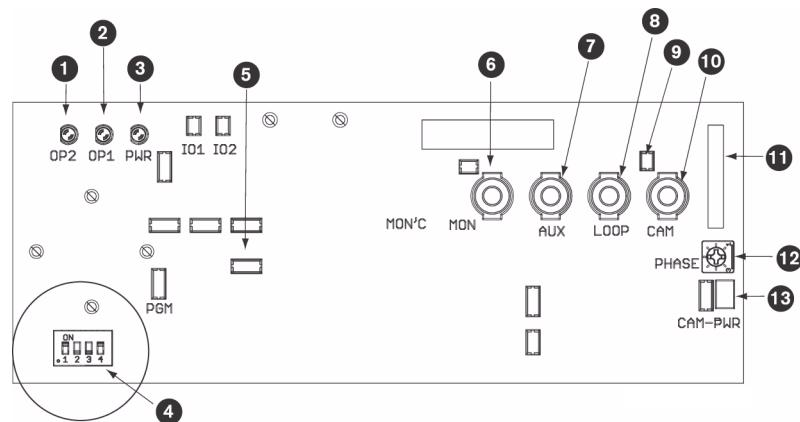

Fig. 9.1 Control Board Configuration
1. Manually unscrew the two (2) thumbscrews on the back of the unit. The control board LED's are located on the control board to the left of the camera. See *Figure 9.1* on page 21, numbers 1-3.